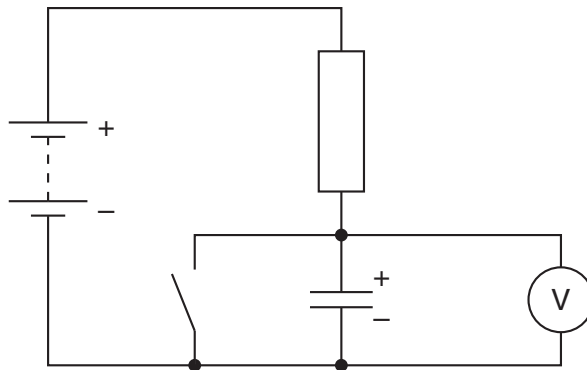

Fig. 3.1
Connecting leads to enable the Supervisor to set up the circuit shown in Fig. 3.1 (see Note 2).
3. At the changeover, the Supervisor should check that the apparatus is still set up as in Fig. 3.1.